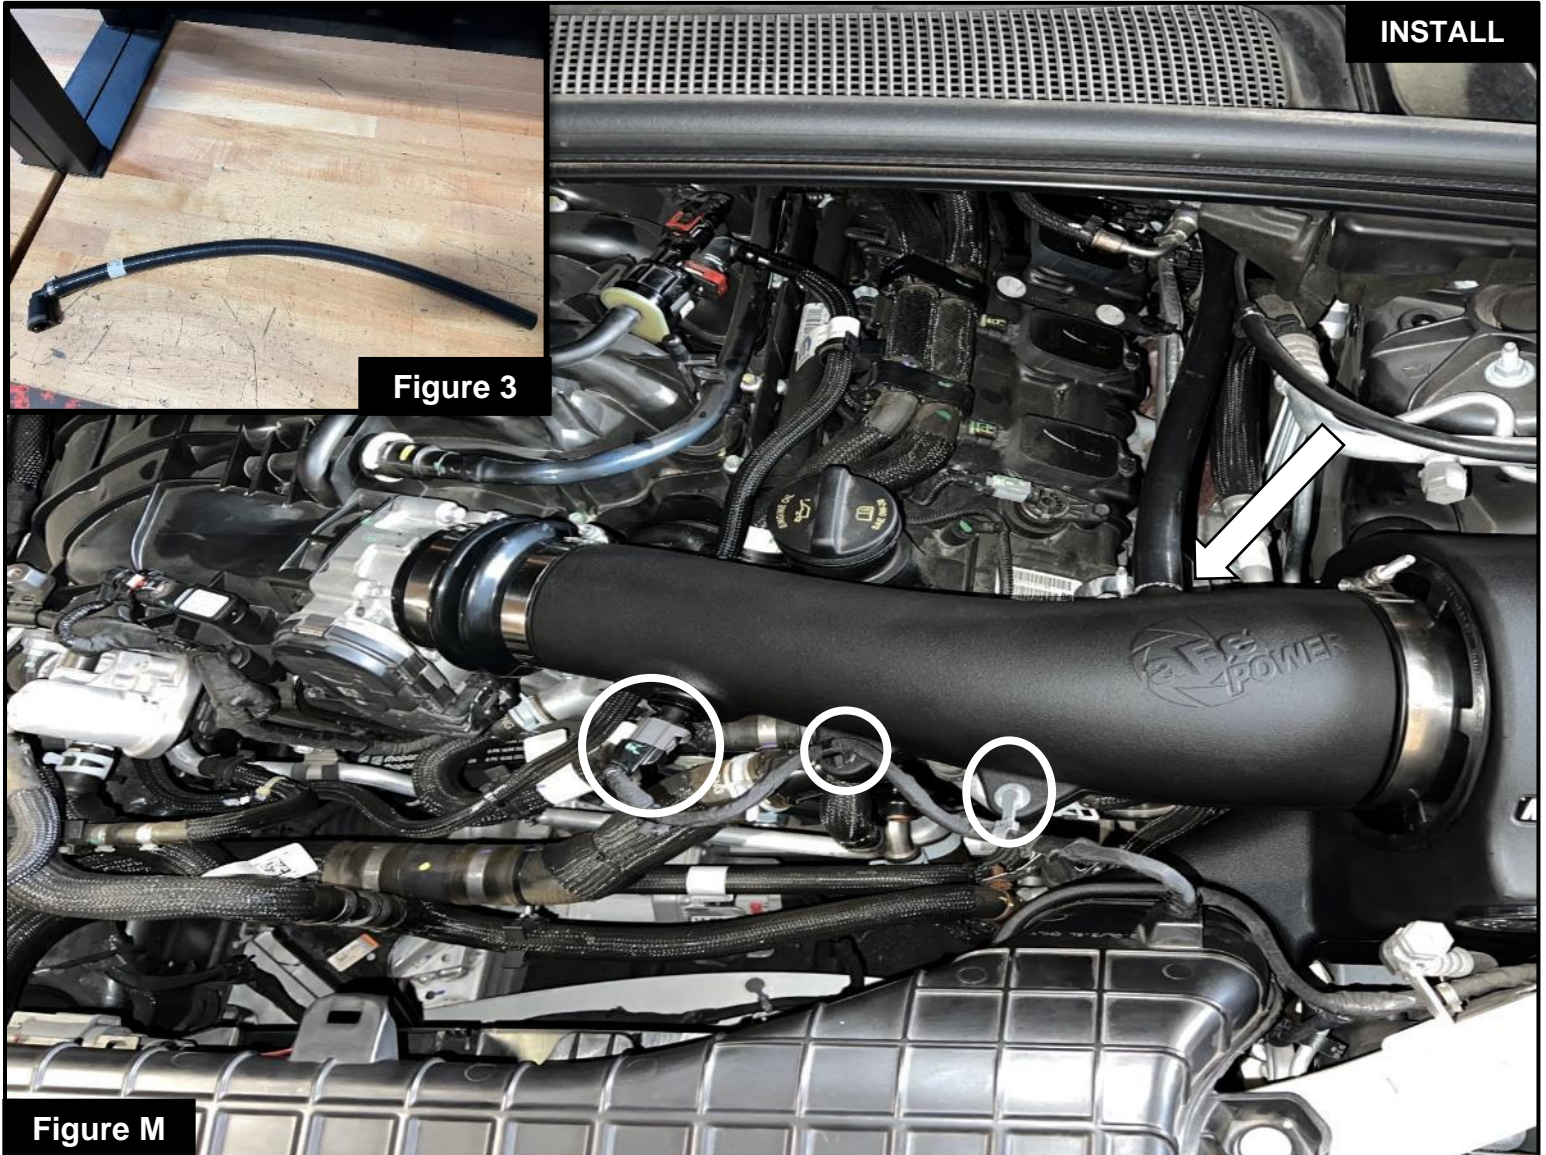

Figure 3
Step 26: Connect the supplied crankcase vent (CCV) line to the aFe POWER intake tube and to the engine connection close to the firewall. **See figure 3.**